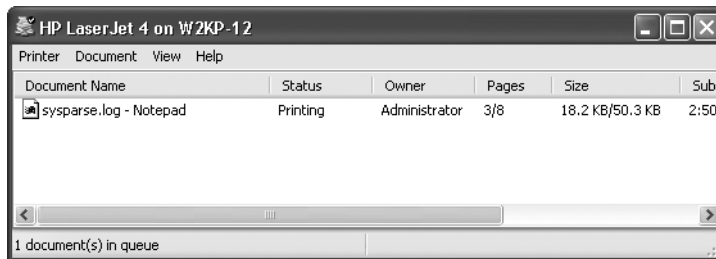

Figure 15-7 The default window for any printer shows the contents of its print queue
- Check the print queue for stalled jobs (see Figure 15-7, which shows a printing print job). Note: if a print job does not show an explicit status (such as waiting, paused, printing, etc.) you can assume it is stalled. The print queue is accessed by clicking the Start menu, selecting Printers and Faxes, selecting the printer whose queue you wish to examine, then clicking the “See what’s printing” entry in the Printer Tasks list.